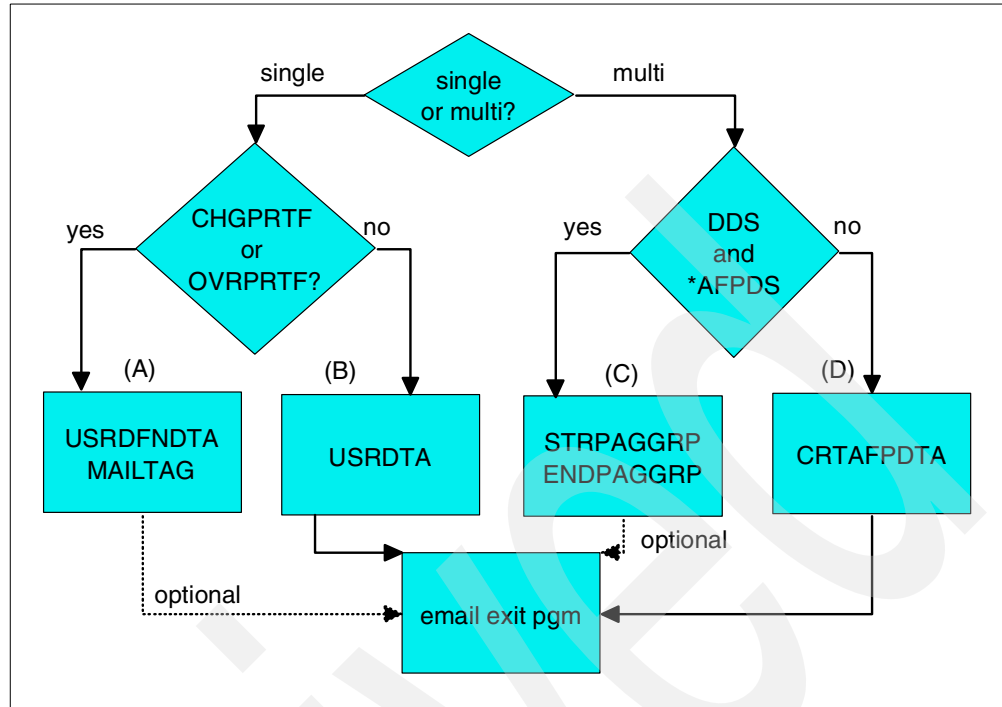

Figure 78. Options for specifying the e-mail address
Figure 78 illustrates the various methods of specifying the e-mail address for the PDF file or files. This section describes the USRDFNDDTA MAILTAG (A) and USRDTA (B) options for sending single files. The choice between the two options depends on whether you can change or override the printer file.
This corresponds to branch (A) in Figure 78.
This corresponds to branch (B) in Figure 78.